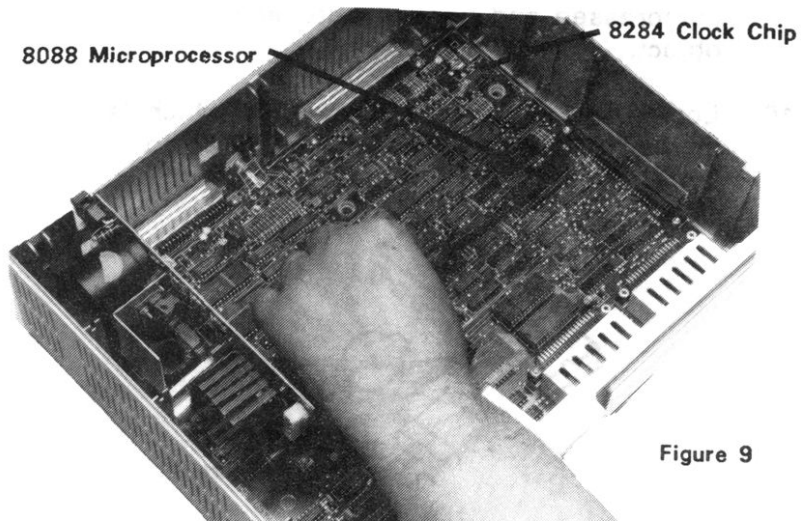

Figure 9
- 10 Locate the computer's microprocessor. This will be the 40 pin IC shown in the photo. The marking 8088 should appear somewhere within the number marked on the chip. See figure 9.
- 12 Remove the microprocessor by slipping a small screwdriver underneath the microprocessor between it and the socket - then gently lifting up. See figure 9.